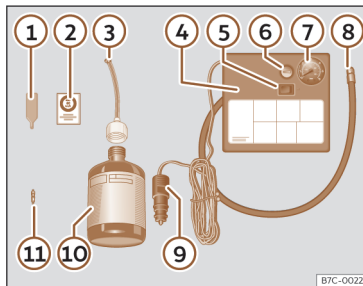

Fig. 199 Standard display: contents of the tyre mobility system.
>>> **Fig. 199:**
• Unscrew the tyre valve cap and insert. Use the device >>> **Fig. 199 ①** to remove the valve cap. Place it on a clean surface.
- Shake the tyre sealant bottle vigorously >>> **Fig. 199 ⑩**.
- Screw the tyre inflation hose >>> **Fig. 199 ③** into the tyre sealant bottle. The bottle's seal will break automatically.
- Remove the filler cap >>> **Fig. 199 ③** and screw the open end of the tube into the tyre valve.
- Replace the valve insert with the device >>> **Fig. 199 ①** onto the tyre valve.
- Screw the tyre inflation tube of the compressor >>> **Fig. 199 ⑧** onto the tyre valve.
- Check that the air evacuation screw is closed >>> **Fig. 199 ⑥**.
- Attach the connector >>> **Fig. 199 ⑨** to the vehicle's 12 volt power outlet >>> page 229.
- Switch on the air compressor with the ON/OFF switch >>> **Fig. 199 ⑤**.
- Attach the sticker >>> **Fig. 199 ②** to the instrument cluster display, within the driver's field of vision.
Screw in the inflator tube >>> Fig. 199 ⑧ again and check the pressure on the gauge ⑦.